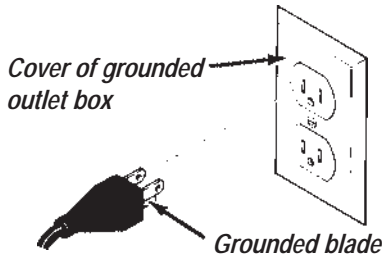

Figure A-1
- The MARK 4 [Shorty] plug has three prongs, as shown in Figure A-1. The receptacle should have three